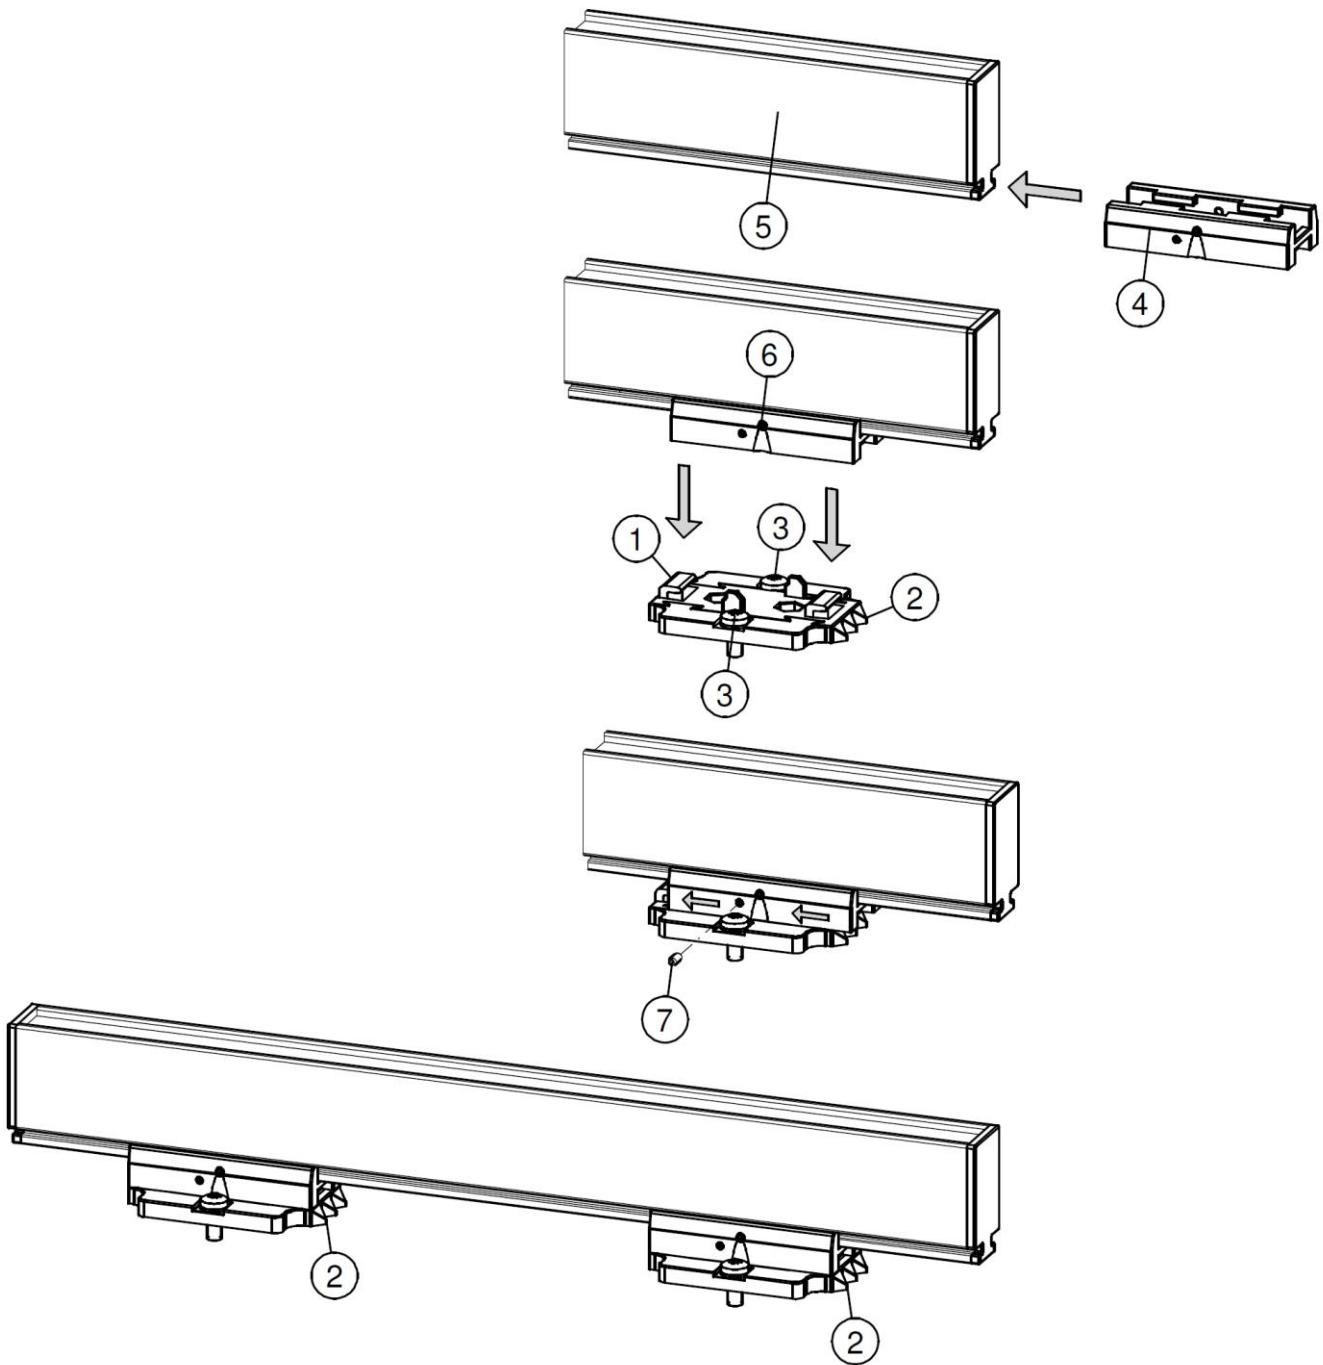

Figure 5: Fixing ionisation rod with mounting brackets (Figures EasION IQ 4.0?)
- Unscrew the adjustable screws (nr.6) from the brackets. (see figure 5).